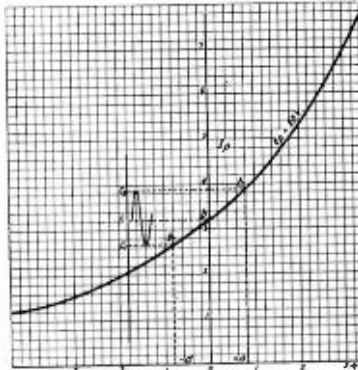
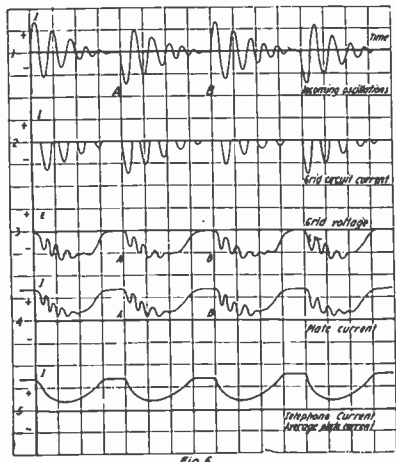

Fig. 7
Fig. 8
This so-called "detector action" may also be obtained without a grid condenser by making use of the shape of the characteristic curve. Figure 7 shows an enlarged view of the lower portion of curve "a" of Figure 14. As noted, the E_g is 20 volts while the grid is (without incoming oscillations) at zero volts. I_p is a steady current of 3.2 milliamperes (as shown). If a train of oscillations is impressed on the grid, the grid voltage will vary, becoming alternately positive and negative as the impressed voltage varies. Suppose the first variation causes the grid to go from zero to +3 volts, to zero to -a volts and back to zero again. This will cause first an increase and then a decrease in the plate current (as described in the discussion of the amplifier). Referring to Figure 7, when the grid is at zero volts, I_p is b milliamperes; when E_g becomes +a volts I_p becomes b_2 milliamperes, and E_g -a volts shows I_p as b milliamperes.
Fig. 8 shows the form of variations of the different circuits for this type of detector action. As before, curve (1) is the incoming oscillation. Curve (2) shows the voltage impressed on the grid by the incoming oscillations. Curve (3) shows the variations in plate current while curve (4) shows the average plate current. The small letters correspond to the letters of Fig. 7. Here again we have an average plate current with the number of variations per second corresponding exactly to the number of incoming wave trains per second. And the telephones again give us the note of the transmitting set.
nected up as per hookup shown in Fig. 7. in conjunction with a longwave receiver, so that long or short waves could be efficiently received as desired by the mere throwing of a switch.